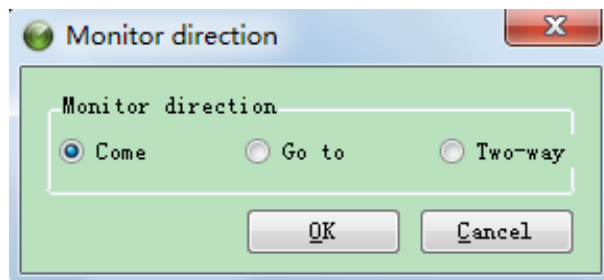

Figure3.4: Choose the Monitoring Lane Direction
- (2) One dialog box is displayed to choose the monitoring direction, choose the direction according to the actual monitoring direction then click ok button, as shown in figure 3.4.